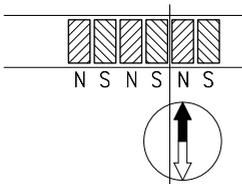

Fig. 9: Determination of the pole position. Cutting the magnetic strip
- If necessary, use a compass needle to determine the location of the poles on the magnetic strip (fig. 9).